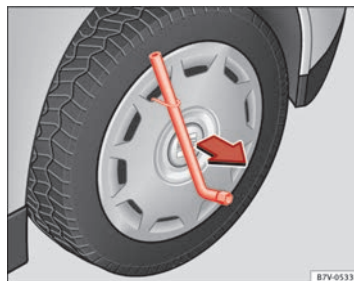

Fig. 181 Removing the full hubcap.
- Insert the wheel brace onto the wire hook ⇒ fig. 181 and pull the hubcap in the direction shown by the arrow.